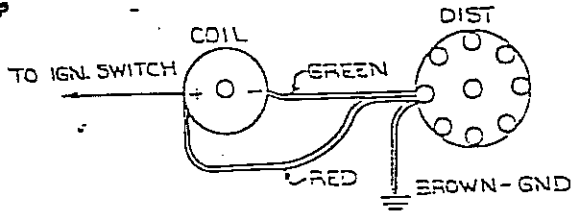

FIGURE 4
- Disconnect Unilite red and green wires from the Coil. (See figure 4.)